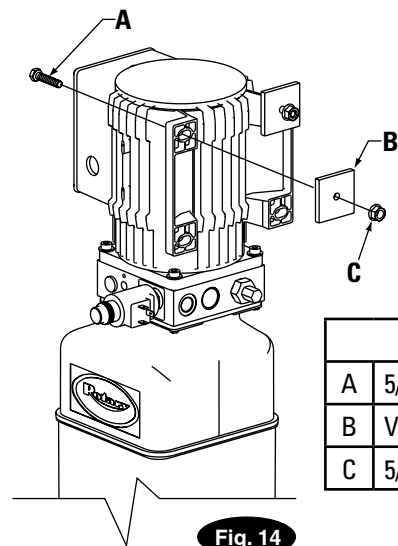

Fig. 14 Detail
Put (2) 5/16"-18NC x 1-1/2" HHCS through top holes in power unit bracket using Vibration Pad to hold in place, Fig. 14. Install 5/16"-18NC Flanged Nuts until bolt end is flush with end of nut. Install power unit onto column extension, Fig. 15. Slide bolt/nut combination into top set of holes and down to bottom of slot. Install HHCS, Vibration Pad, and Flanged HHCS in bottom power unit holes and tighten. (Be sure to place vibration pad between power unit and column extension). Tighten top HHCS and Nut. Install and hand tighten Male Extension to pump until O-ring is seated, Fig 16. Continue to tighten the lock nut to 14 - 20Nm (1.4 - 2.1kg-m), or until the nut and washer bottom out against the pump manifold.